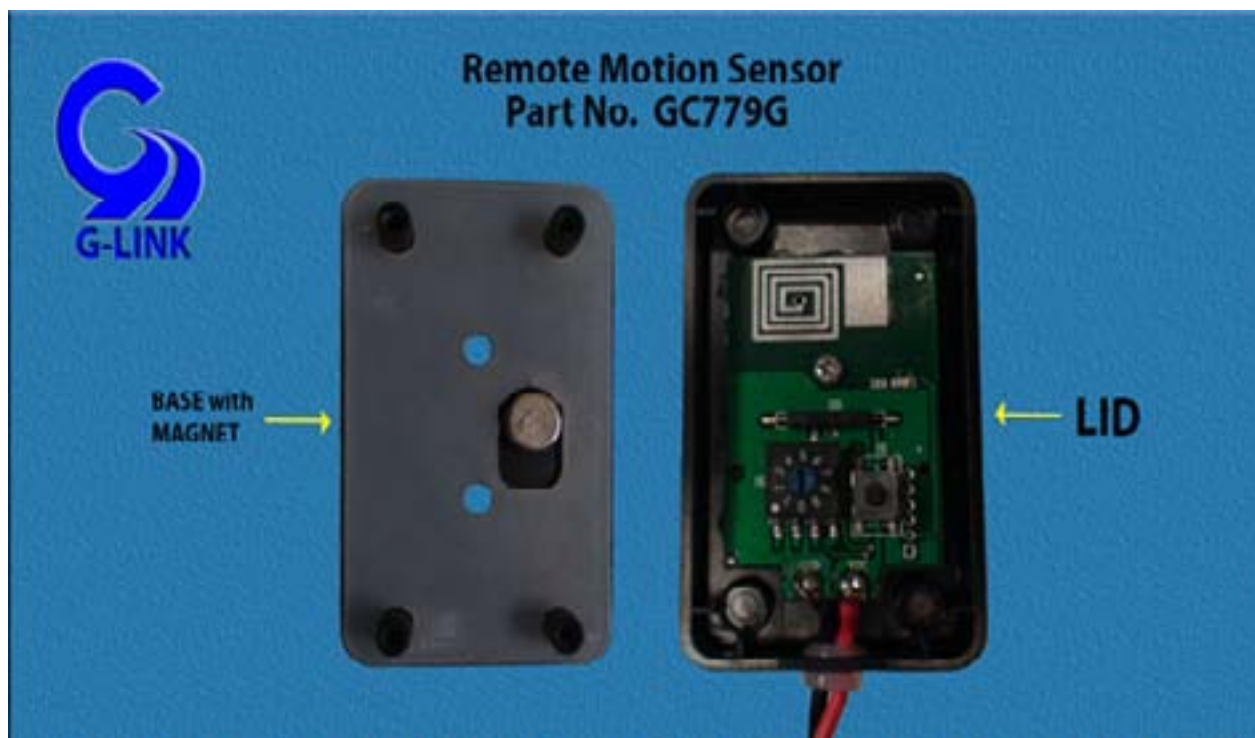

FIGURE 5
5. Place the lid of the Remote Motion Sensor (GC779G) on the base (See Figure 5 & 8). The Purple LED light will flash when properly placed.